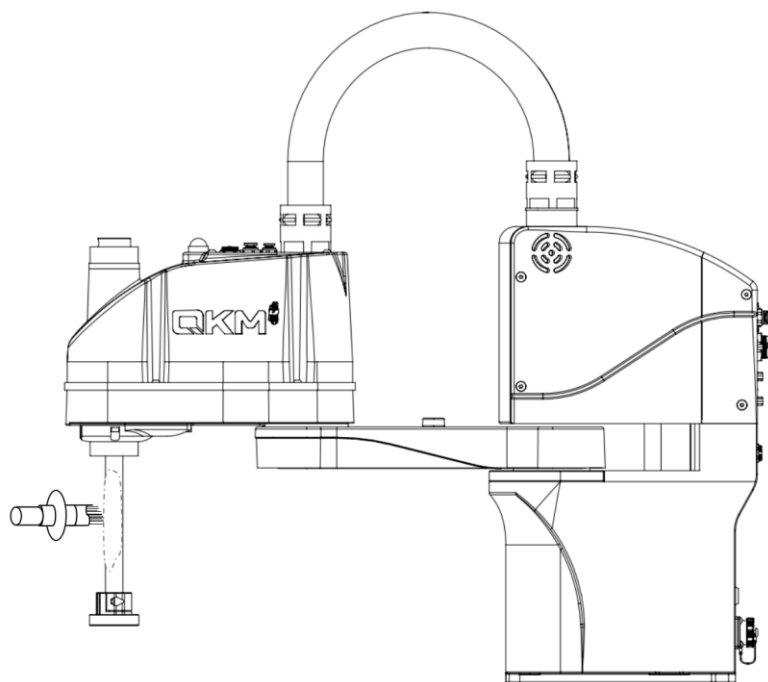

Figure 4-3 Apply lubricating grease
**Step 2** Wipe the old grease off the screw shaft with dust-free paper, then apply an appropriate amount of grease on the screw shaft and use the special oil brush to apply it evenly, as shown in Figure 4-3.